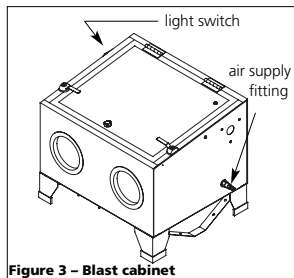

Figure 3 - Blast cabinet
- Connect air supply (max. 125 psi) to the fitting on the side of the cabinet (Figure 3).
- Plug the other end of the 12V power supply into the light switch on the cabinet (Figure 3).